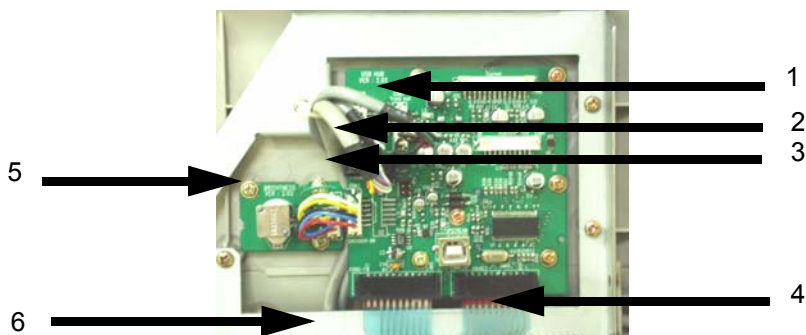

Figure 8-68 Disconnect 6 connectors
- 2.) Disconnect six (6) connectors (1-6) from the HUB Board Assy. Refer to section Figure 8-68 on page 25.